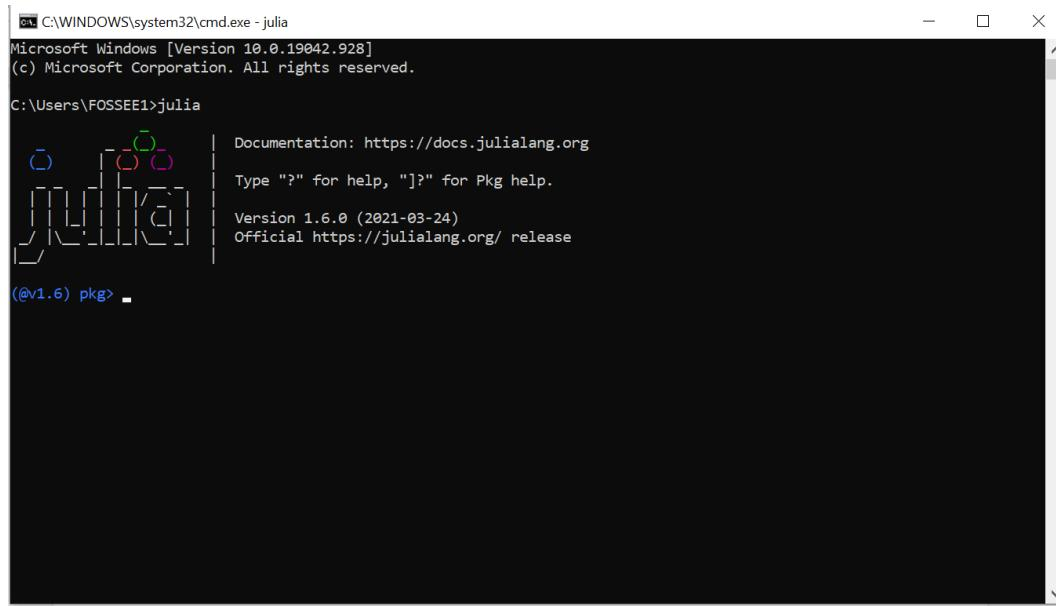

Figure 3.31: Windows command prompt to enter Pkg REPL in Julia
3. Now, we need to enter the `Pkg` REPL in Julia. From the Julia REPL, press `]` to enter the `Pkg` REPL. The moment you press `]`, you enter `Pkg` REPL, as shown in Fig. 3.31.